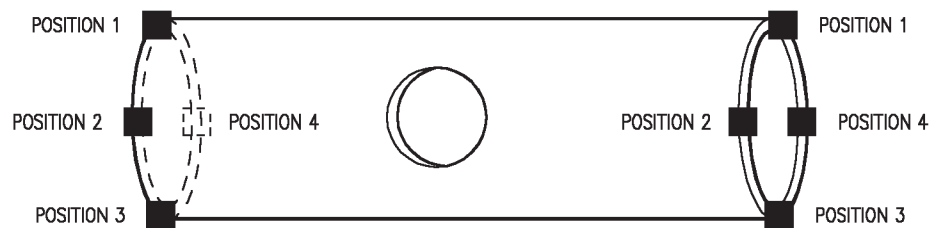

**Figure 1. Crack Directions On Arresting Hook Hollow Pin**
d. Using black light, inspect entire length of hollow pin for cracks around complete circumference, see figure 1.
j. Using black light, inspect surface of hollow pin, near hole, for cracks in longitudinal direction, see figure 1.